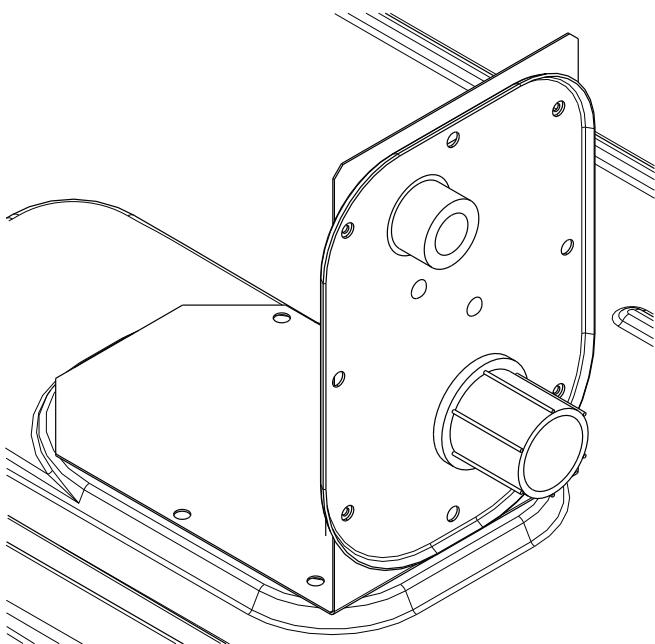
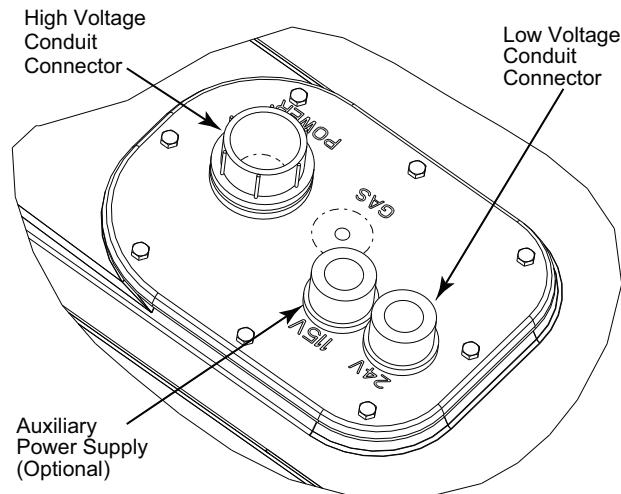

Fig. 37 — Thru-the-Base Fitting Assembly (Shown in Shipping Position)
Fig. 38 — Thru-Base Connection Fittings
This service connection kit consists of a 1/2 in. electrical bulkhead connector and a 3/4 in. electrical bulkhead connector, connected to an "L" bracket covering the embossed (raised) section of the unit basepan in the condenser section (see Fig. 37 for shipping position). The 3/4 in. bulkhead connector enables the low-voltage control wires to pass through the basepan. The 1/2 in. bulkhead connector allows the high-voltage power wires to pass through the basepan. See Fig. 38.
3. Place the gasket over the embossed area in the basepan, aligning the holes in the gasket to the holes in the basepan. See Fig. 38.